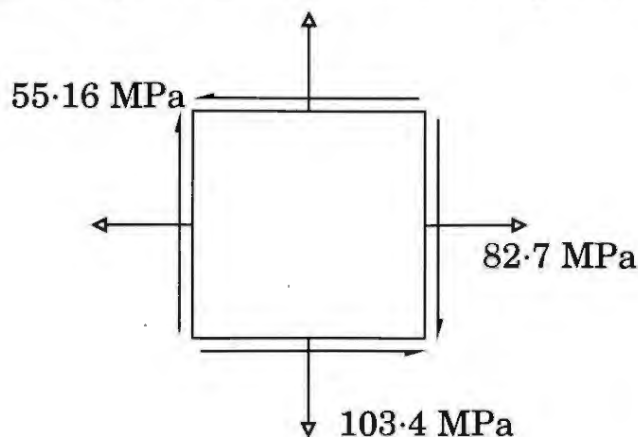

Figure 2
- (d) A plane element in a body is subjected to stresses as shown in Figure 2. Determine the principal stresses and maximum shear stresses and the planes on which they act. Indicate them in separate sketches. 12